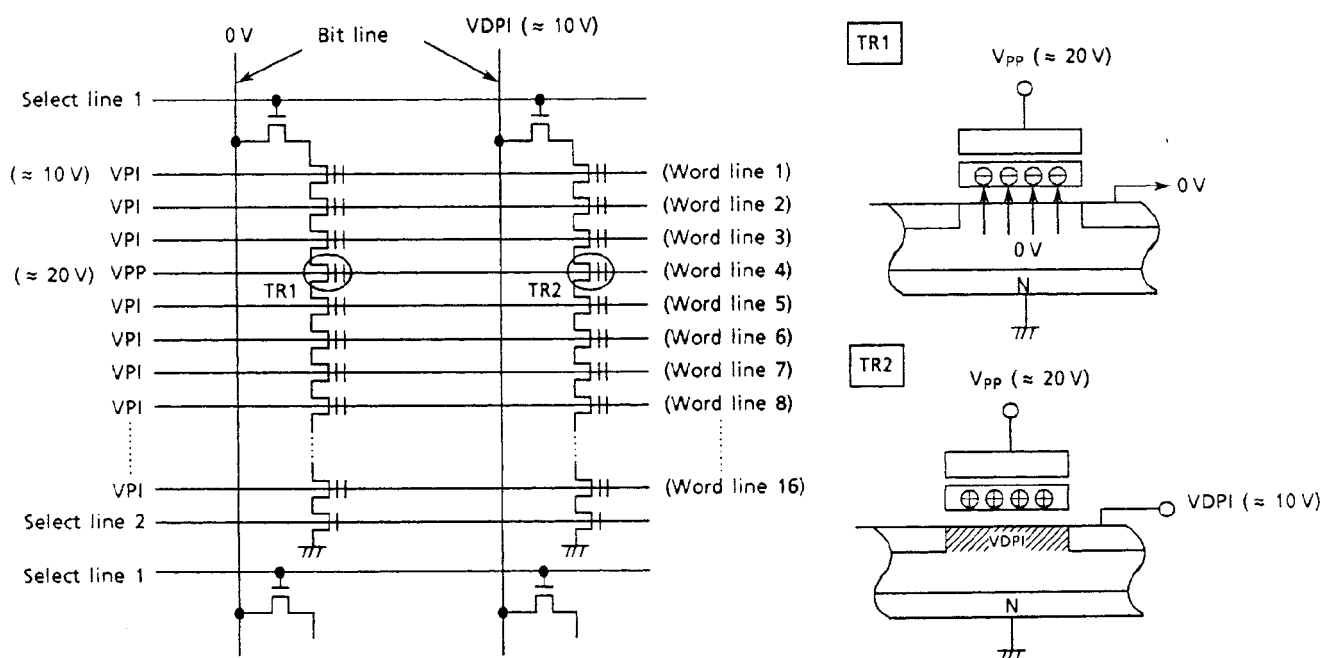

Figure 16. Program Device Physics
Figure 16 shows the NAND memory cell level details of the programming mechanism. The Program operation is used to write "0" data into an erased memory cell ("1" data cell) using a tunneling mechanism. An example Program operation to program "0" data into TR1 and "1" data into TR2 is as follows:
- (1) A high level is applied to Select line 1 and a low level is applied to Select line 2 so that the device is connected to the Bit line and disconnected from the ground line.
- (2) V_{pp} (≈ 20 V) is applied to the selected word line and an inhibit voltage of V_{PI} (≈ 10 V) is applied to the unselected word lines.
- (3) 0 volts is applied to the bit line tied to cell transistor TR1 and the inhibit voltage $VDPI$ (≈ 10 V) is applied to the bit line tied to TR2.
- (4) V_{pp} is applied between the control gate and the channel in TR1, as shown in Figure 16, which causes electrons to be injected from the channel to the floating gate by a tunneling mechanism.
- (5) The injected electrons are captured in the floating gate surrounded by an oxide layer and will remain, even after power is cut off, until they are removed by an Erase operation.
- (6) Although 20 volts is applied to the control gate of TR2, the voltage difference between the control gate and the channel is only 10 V because the voltage of the channel is 10 V. Therefore, tunneling does not take place. (i.e. the electron is not injected into the floating gate.)
- (7) Tunneling does not take place in the unselected pages because of the 10 V (V_{PI}) applied to the unselected word lines which makes the voltage difference between the control gate and channel only 10 volts.